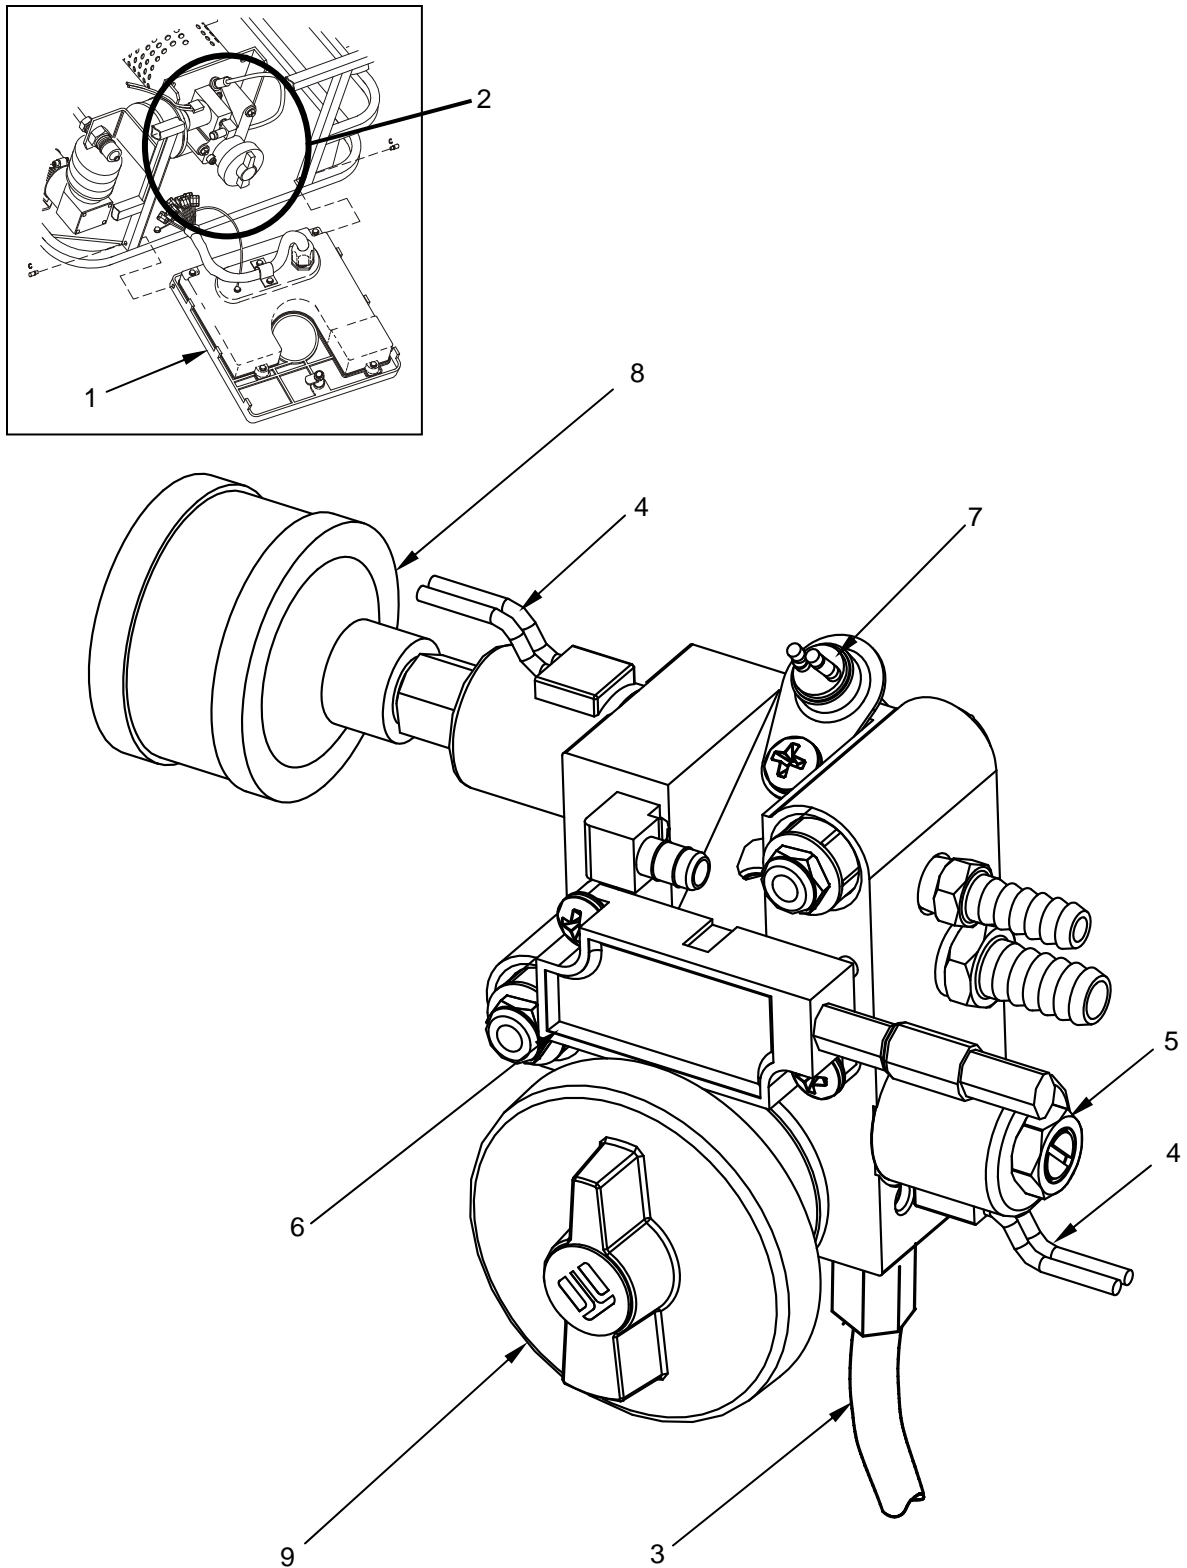

Figure 1. Inspect the Fuel Delivery Block Assembly.
2. Open control panel Figure 1, Item 1) to gain access to the fuel delivery block assembly (Figure 1, Item 2).
3. Inspect the fuel delivery block assembly for damage to individual components, including leaking or loose fuel hoses (Figure 1, Item 3), frayed or loose electrical connections (Figure 1, Item 4), damage to the solenoids (Figure 1, Item 5), flame sensor (Figure 1, Item 6), igniter (Figure 1, Item 7), and air filter (Figure 1, Item 8). Check the control knob (Figure 1, Item 9) for free movement.
4. Close the control panel (Figure 1, Item 1).